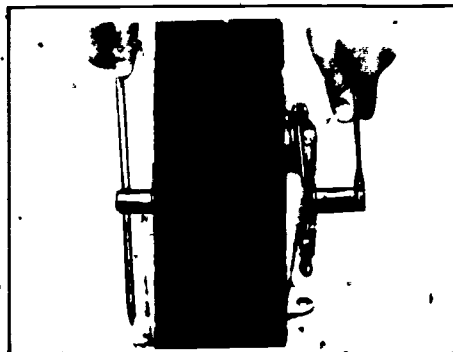

FIGURE 1
- A. Remove axle nut and axle (Figure 1)